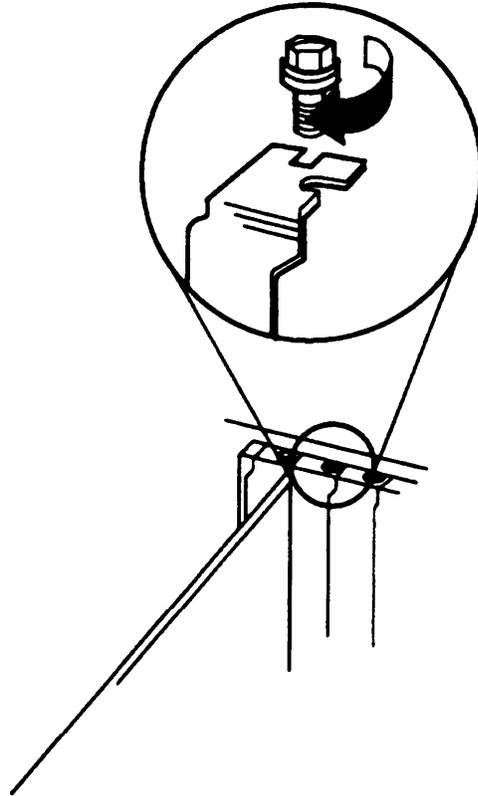

Figure 2-10. Securing the Board
4. Secure the expansion board in the computer chassis using the screw removed from the slot cover plate, as shown in Figure 2-10.